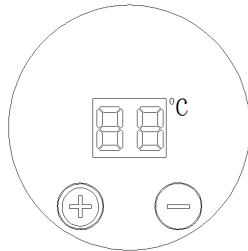

Figure 14
- Press any button to see the set temperature before power off (factory setting is 2 °C) (see figure 14).